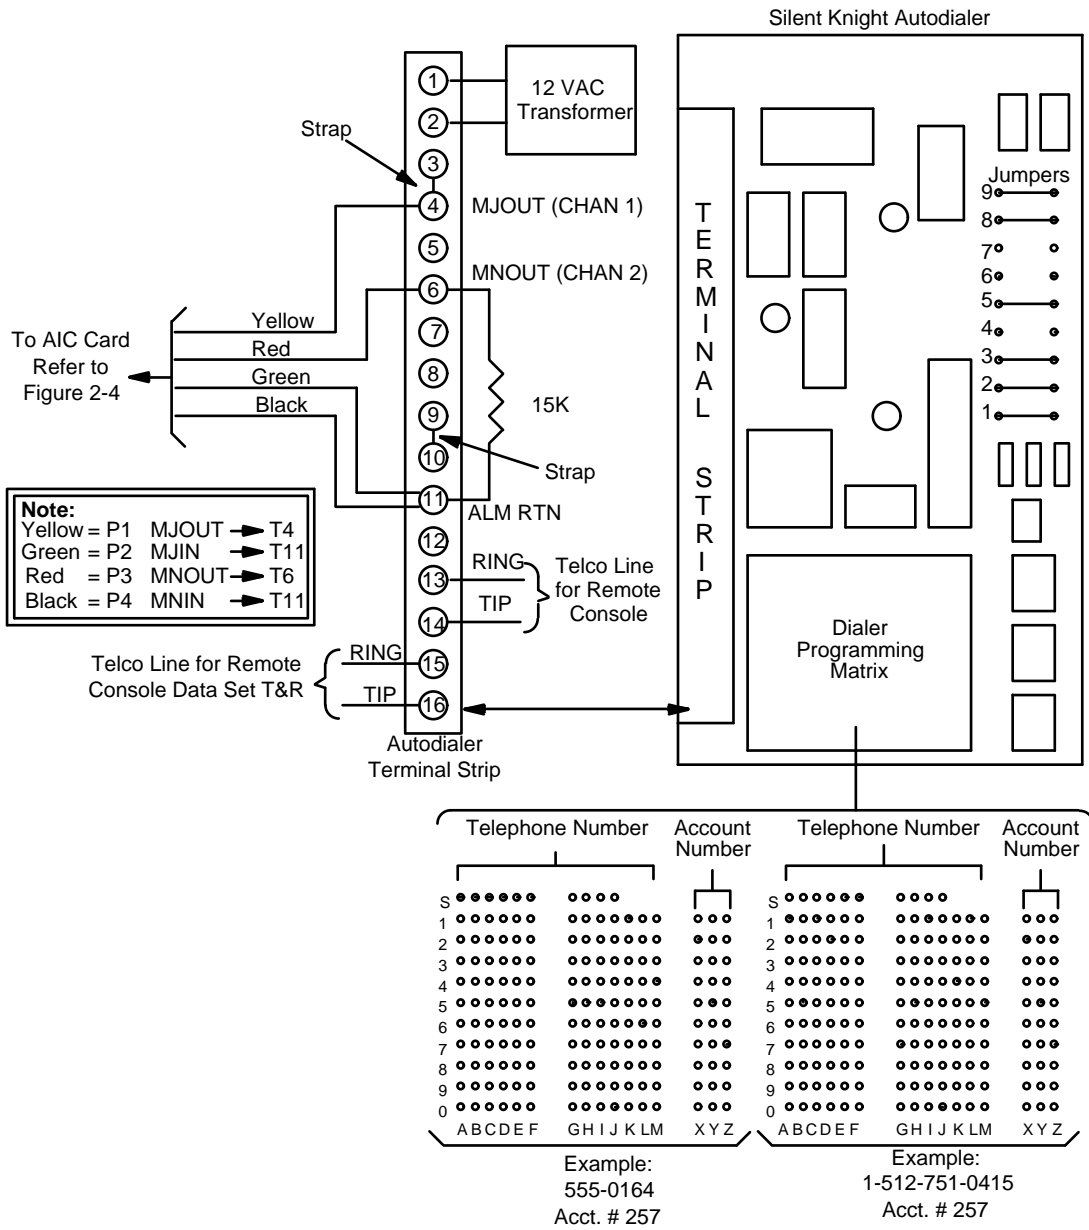

FIGURE 2-3
See: Figures 2-3 and 2-4 in this section to assist you while installing the Silent Knight Autodialer. Note that the Silent Knight Autodialer channel 1 will be associated with *major* alarms and channel 2 will be associated with *minor* alarms.
- 4 Connect the four-wire modular plug (one end of the two-foot cable) to the Silent Knight as shown in Figure 2-3.